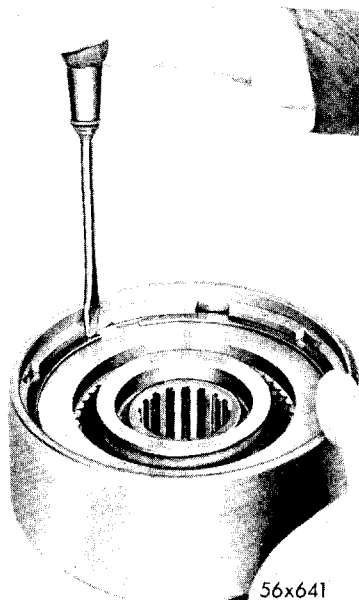

Fig. 70—Removal and Installation of Rear Clutch Piston Retainer Snap Ring
(1) Using screw driver, remove snap ring (large) from rear clutch piston retainer assembly, (Fig. 70).
(2) Remove rear clutch pressure plate (L) from retainer assembly.
(3) Invert clutch piston retainer assembly and re-